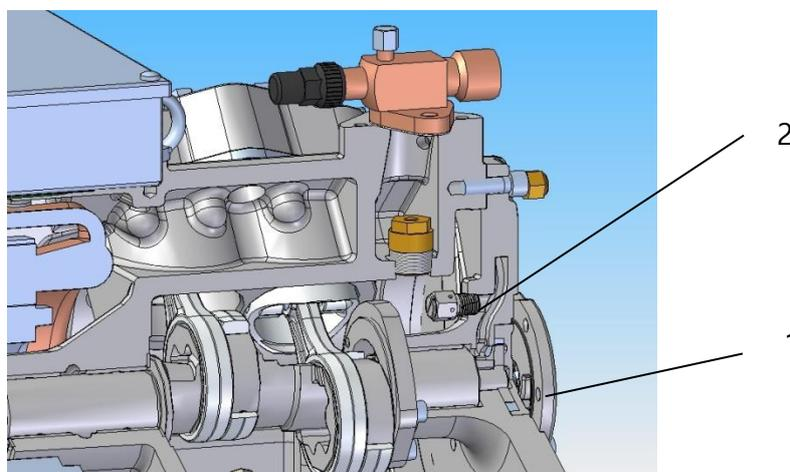

Fig. 13: Compressor model PP4-L/Hxx: gear pump and safety valve
The gear pump has also a safety valve (ref. 2 in Fig. 13), which allows the oil by-pass to the carter when the delivery pressure exceeds the set value (open at 4,1 bar; rearmament 2,8 bar).